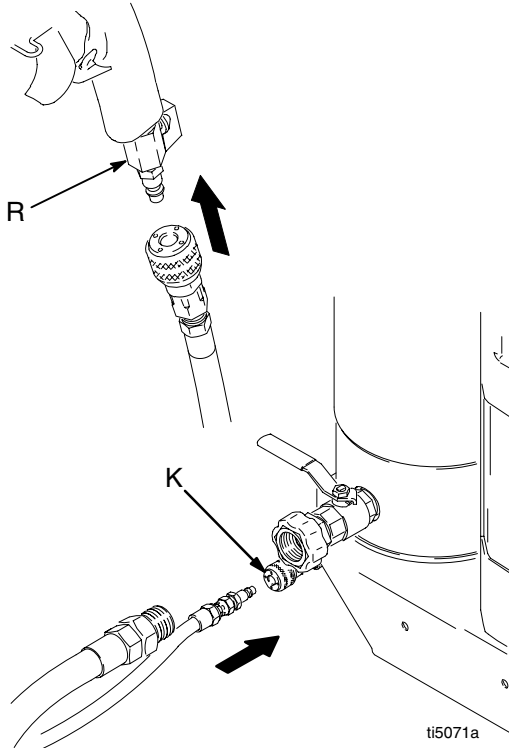

Fig. 2
1. Connect the air hose to the air outlet (K) and to the gun air inlet. Open gun air valve (R) all the way. See Fig. 2.
3. Open the gun air ball valve (R) (handle parallel with valve body). See Fig. 2.